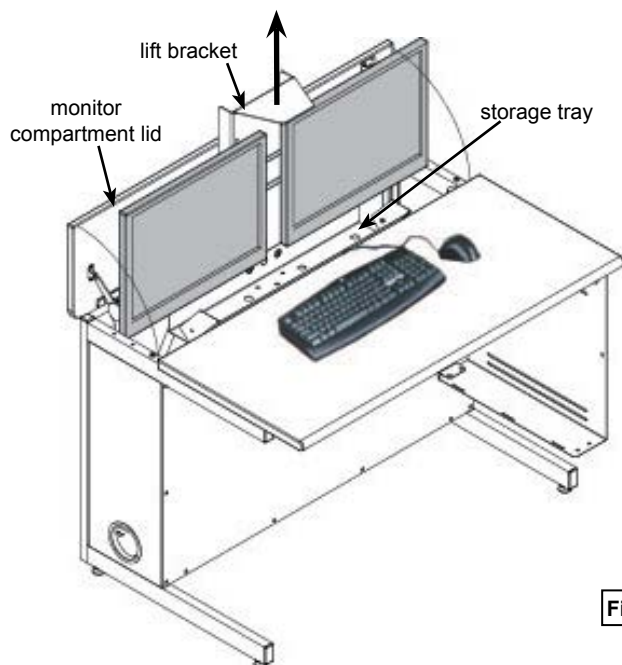

Figure 7A
1. Open the monitor compartment lid. **Figure 7A.**